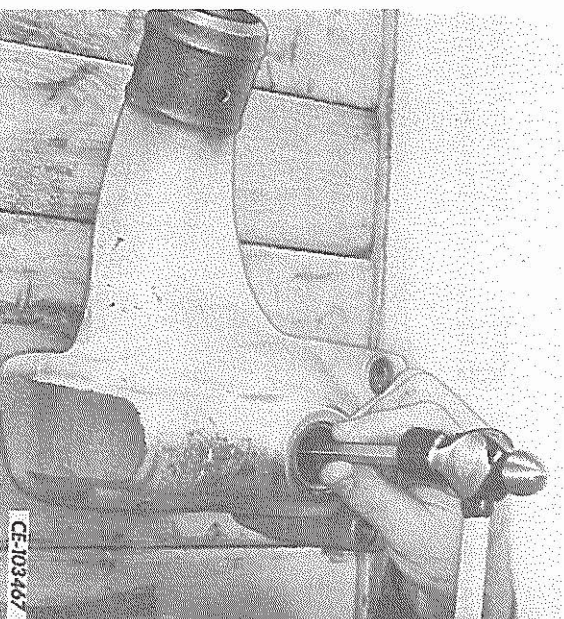

FIG. 17 — Removing the Shift Lever Poppet
5. Use a flat punch and hammer to tap the shift lever poppet from its bore in the housing (Fig. 17). Discard the sealing ring used on the poppet.